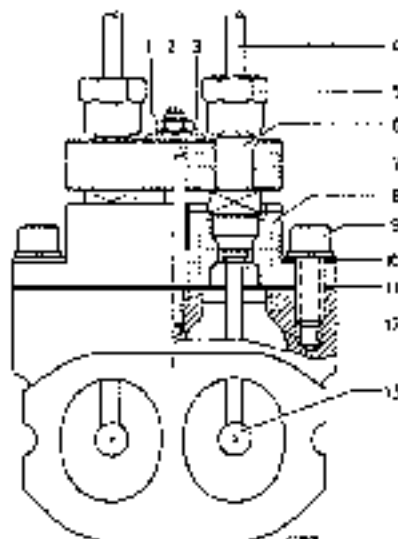

Fig. 01-4/17 d
After disconnection injection pipes (4) and unscrewing fongo (7), the injection valve may be removed from the holder (8) (Fig. 01-4/17d).
The holders (8) themselves are attached to the intake pipe (Fig. 01-4/12d) by means of two hexagon socket screws (9) with lock washers and washers (10) and gasket (11).